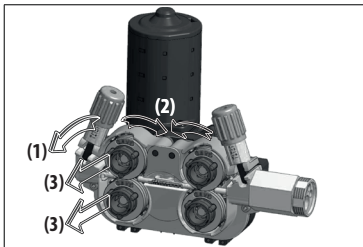

Figure 9 : Wire Feed Roller Removal
- If you need to replace the wire feed rollers, pull the pressure adjustment screw toward your side (1) and after lifting the roller covers (2), remove the existing rollers (3). (Figure 9)